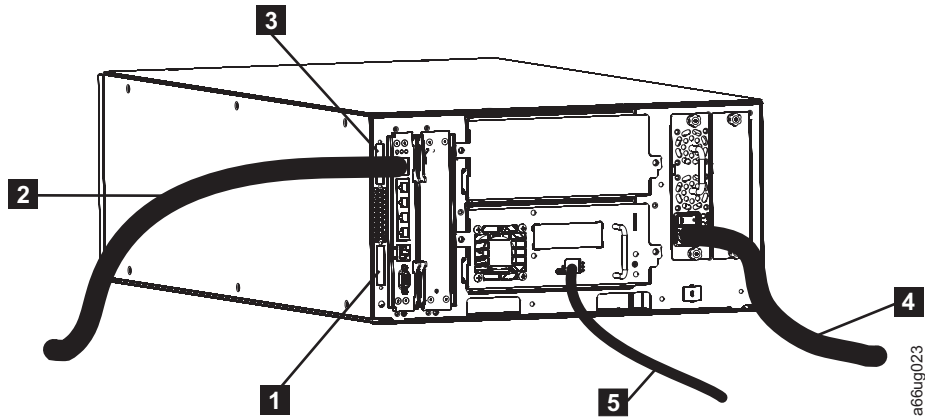

Figure 3-1. Cabling on a 5U library
- Two module communication terminators (**1** and **3** in Figure 3-1)
- Power cord in each power supply (**4** in Figure 3-1) then into your power source